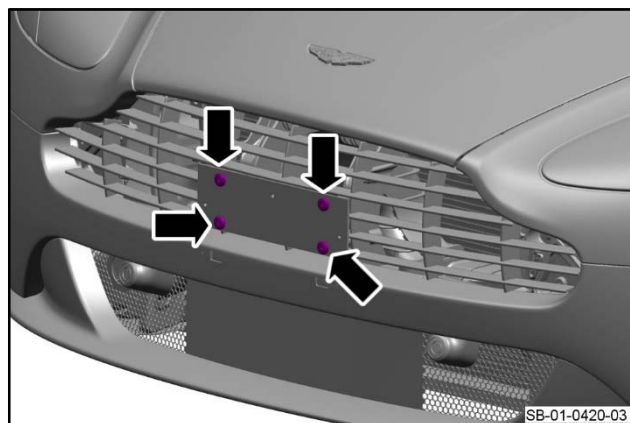

Figure 3
3. Install the four screws that attach the bolster plate to the bolster studs (refer to Figure 3).